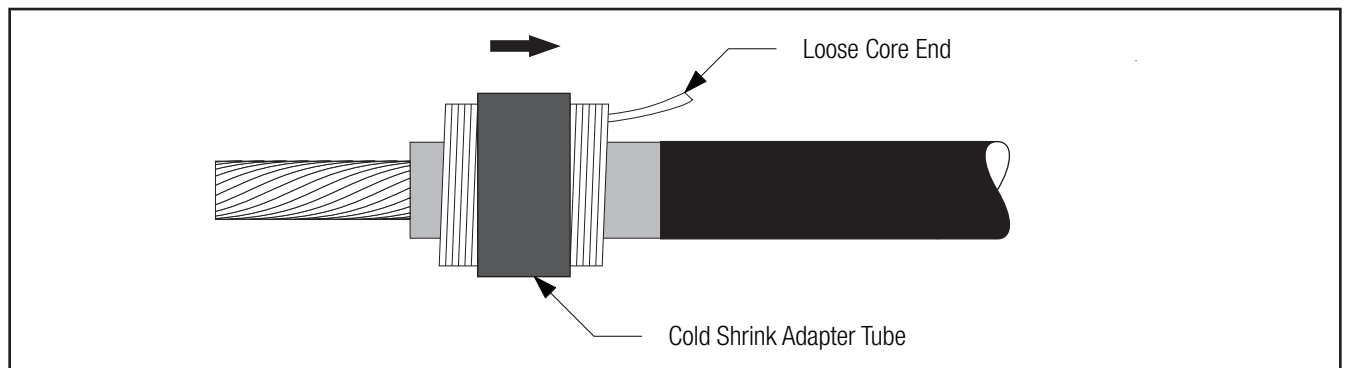

Figure 15
- 4.4 For 350 through 1000 kcmil copper connectors, 350 through 750 kcmil aluminum connectors, or connectors with an O.D. between 0.87–1.60" (22,1–40,6 mm): Slide the cold shrink adapter tube onto the insulation with the loose core ribbon end going on first, away from the cable end (Figure 15).**